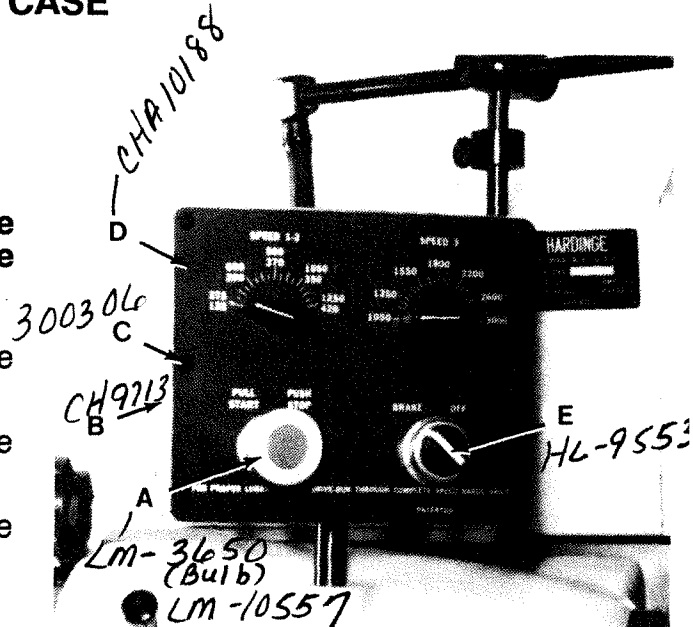

Figure 5.1 - Variable Speed Control Box
1. Press "Start/Stop" pushbutton "A", Figure 5.1, IN to turn the machine OFF.
Be sure disconnect switch "A", Figure 5.1, is turned OFF before attempting to service the power feed control panel.
3. Remove eight screws "C", Figure 5.1 .